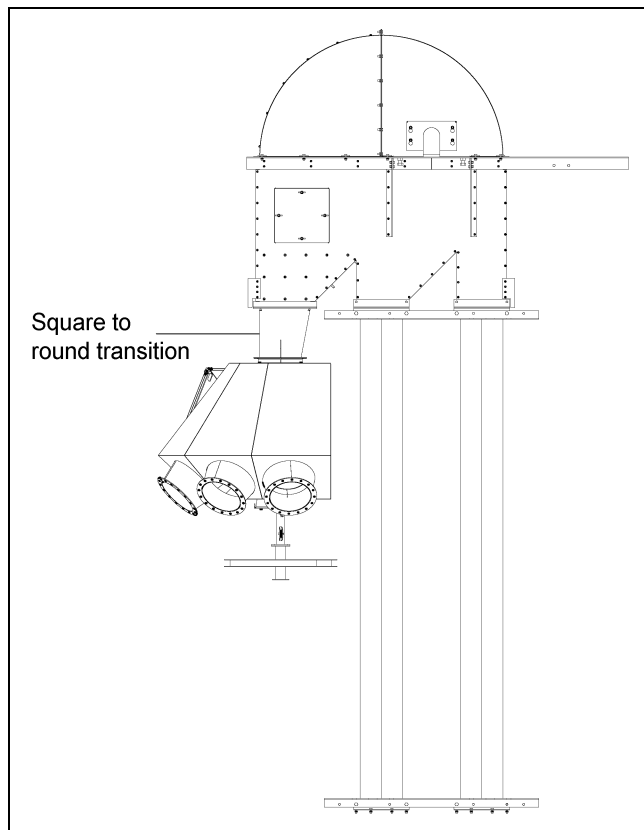
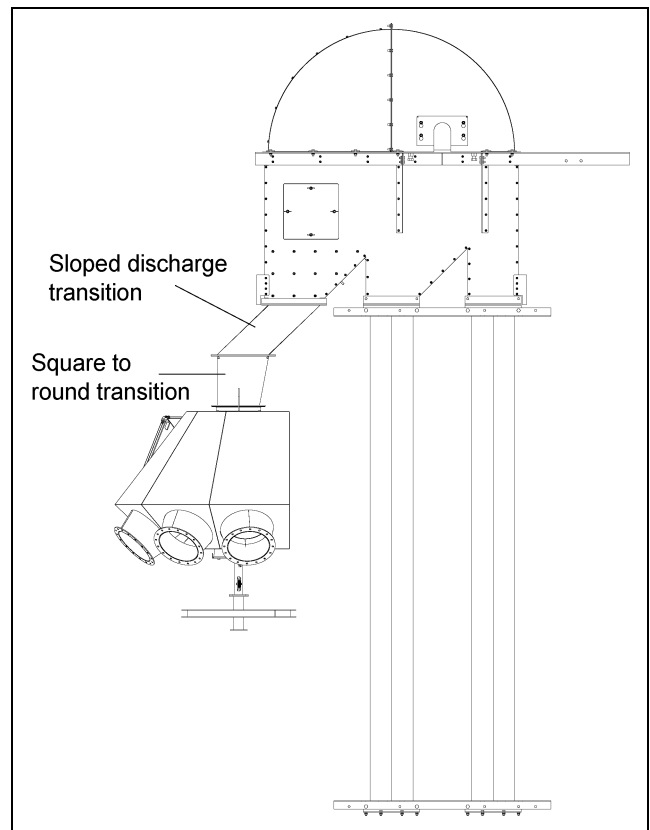

Figure 3A
Figure 3B
*The offset transition allow clearance between the trunking and the distributor control wheel. The transition also keeps the distributor outlet spouting from interfering with the ladder safety cage. Transitions must be installed for proper distributor operation. (See Figure 3A and Figure 3B.)